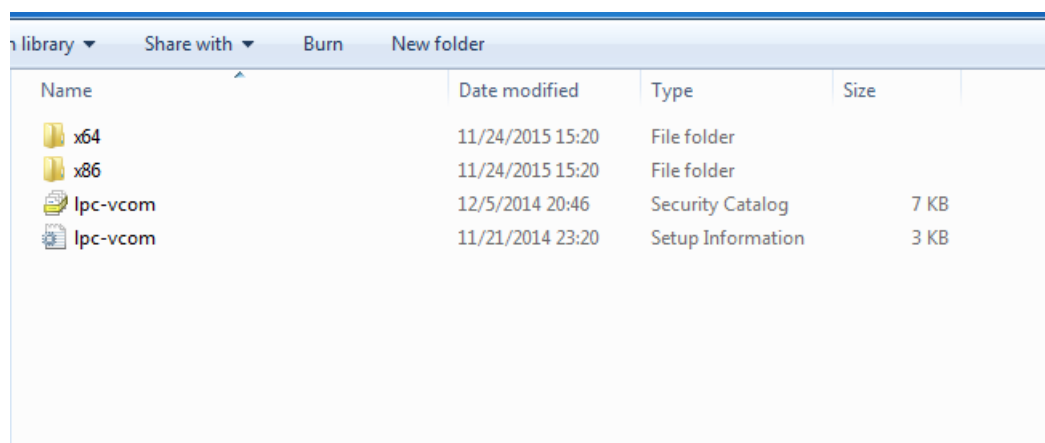

Fig. 6.3. Device driver folder content
- Select "x86" driver for a 32-bit machine or x64 for a 64-bit machine. If not sure, select a root folder (folder in which x64 and x86 lay inside, as in Fig. 6.3).